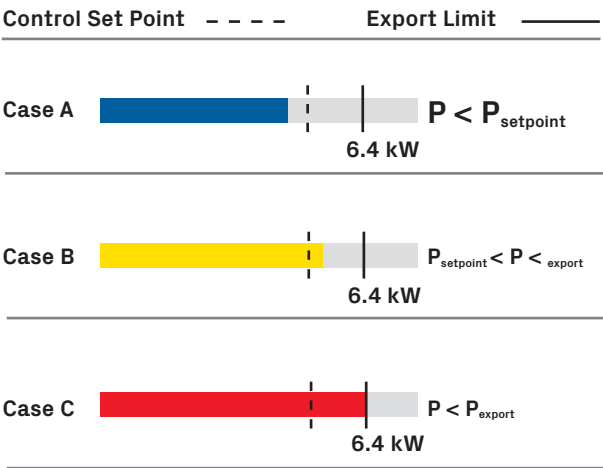

Figure 22 - Export control monitoring
- Figure 22 - Export control monitoring